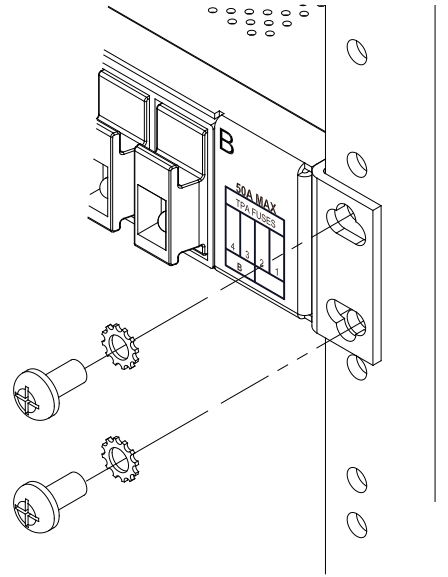

Figure 3 - Rack Mounting
2. Locate an unused rack position and mount the panel using the four screws and lock washers provided, as shown in Figure 3. (It is best to mount the panel as high as possible on the rack.)